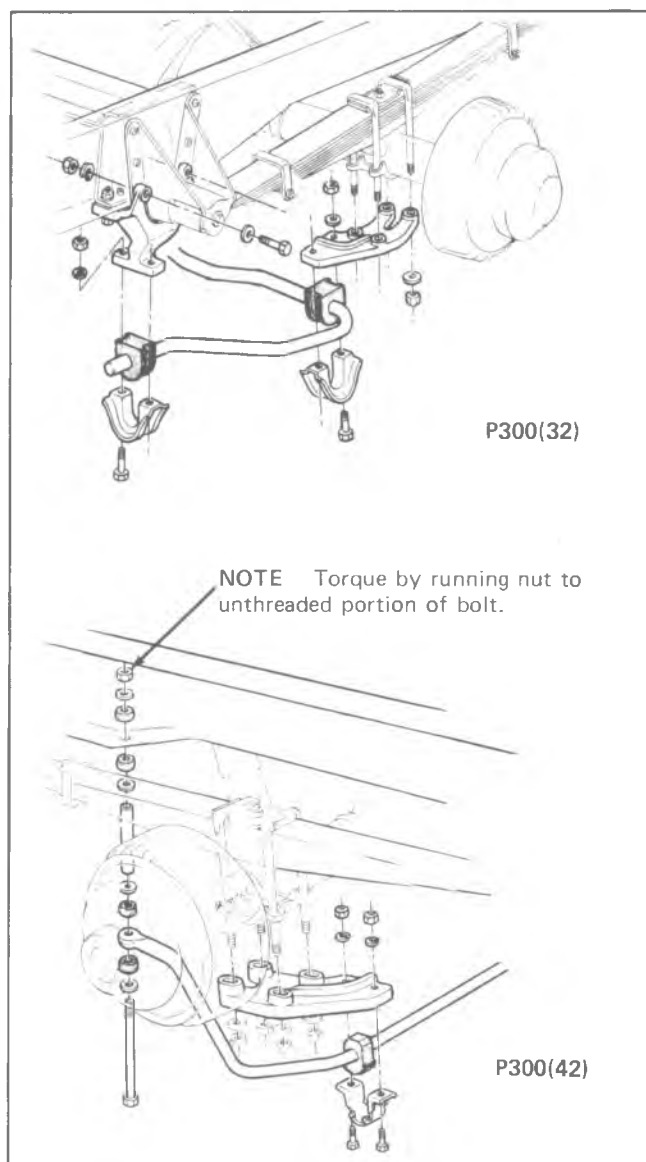

Fig. 3D-11-Rear Stabilizer Shaft-P30
1. Place spring on press and press out bushing using a suitable rod, pipe or tool as shown in Fig. 3D-20.